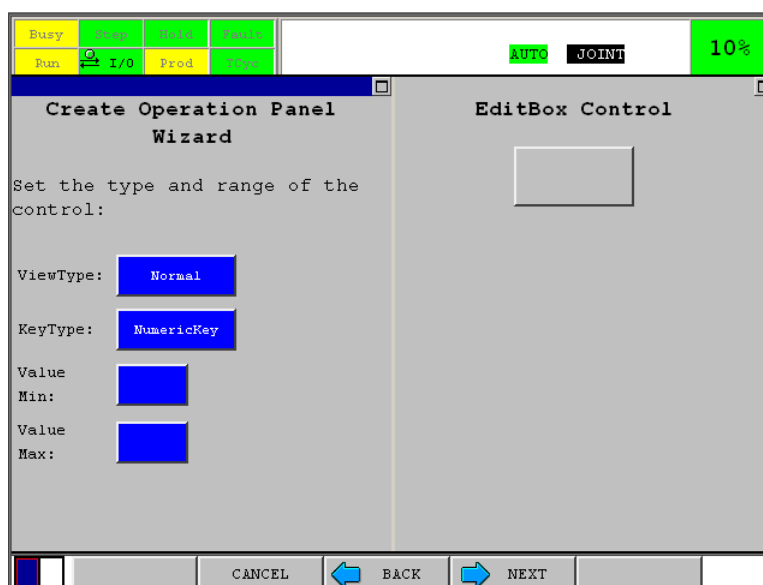

Fig. 9.41.4.8 Edit Box Setup screen
- 1 Select Edit Box in iPendant Control selection screen (Fig. 9.41.4.2).